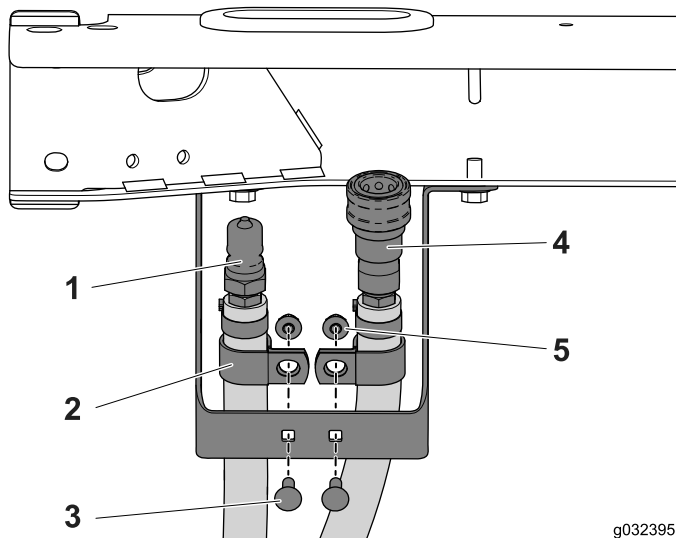

Figure 28
3. Position an R-clamp over each hose (Figure 28).
4. Use the 2 carriage bolts (1/4 x 3/4 inch) and flange nuts to install the R-clamp and hose assembly to the bracket mount (Figure 28).